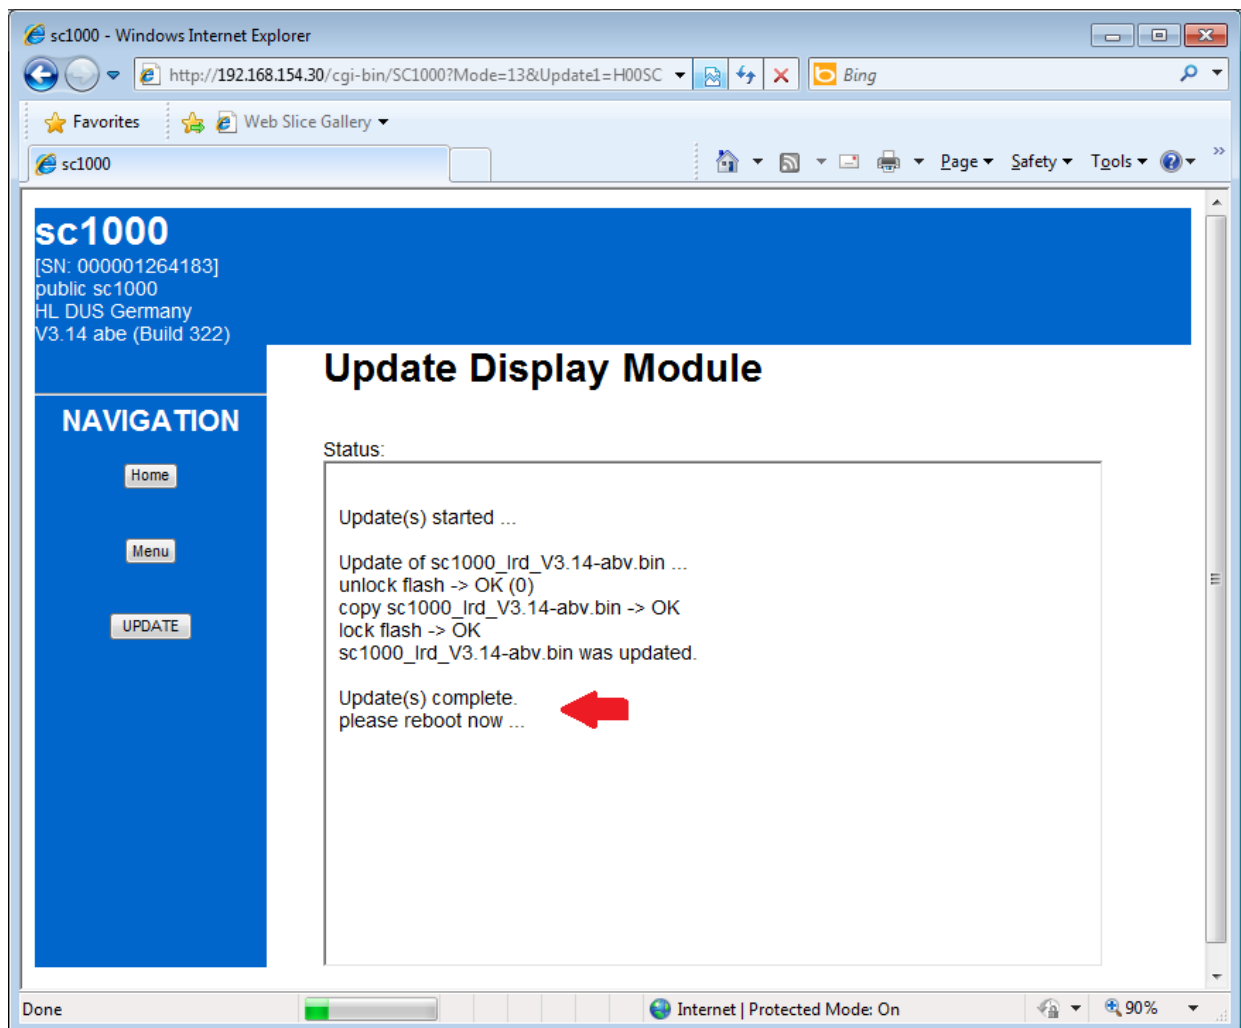

figure12: progress log of Software Update
- Wait until the update progress screen shows (figure12):